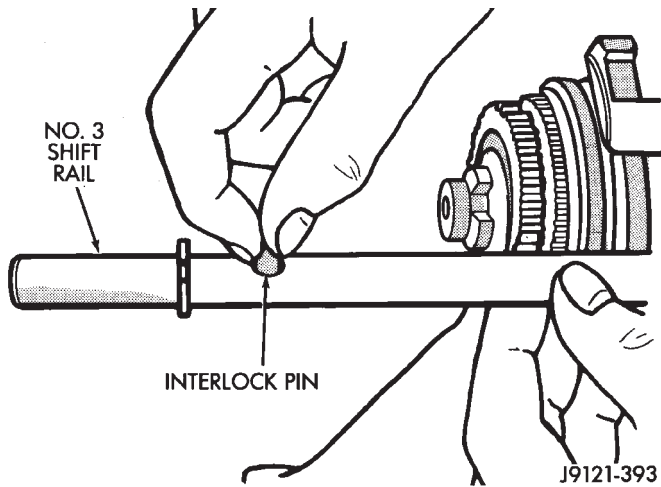

Fig. 82 Installing No. 3 Shift Rail Interlock Pin
(10) Install interlock pin in No. 3 shift rail (Fig. 82).